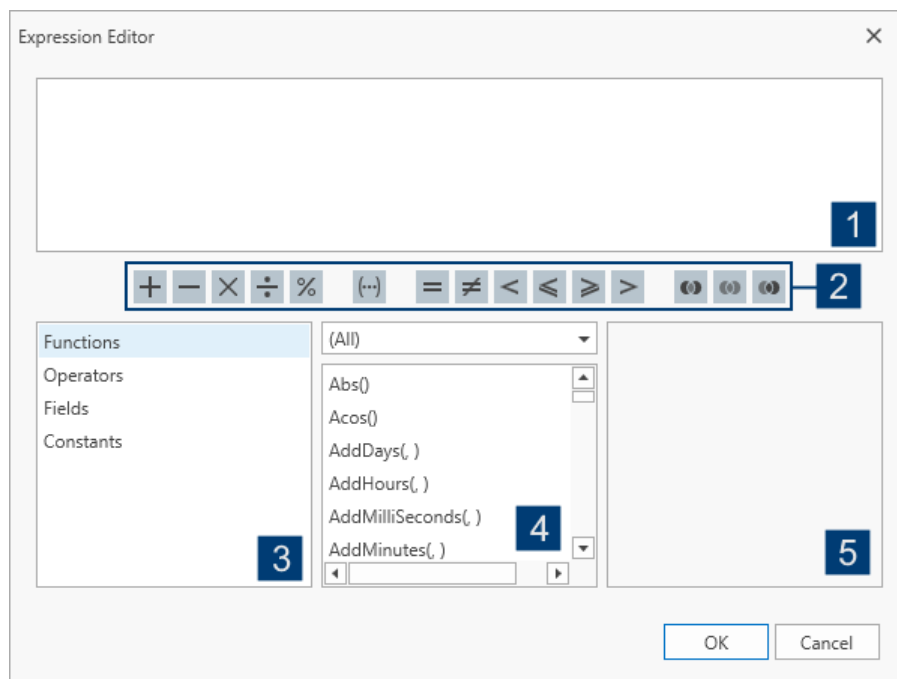

Figure 5-65: The Expression Editor, which is part of the Filter Editor
The expression components that this editor can use are grouped into four categories: "Functions", "Operators", "Fields" and "Constants", as shown on the lower left in Figure 5-65. The lower center of the dialog lists the available entry options (expression components) in the selected category. When you select an entry, the field on its right shows a description.
1. Select a category (3 in Figure 5-65).
2. To add an entry from this category to the expression, double-click the entry in the list (4).